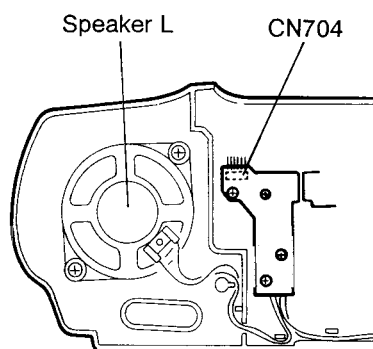

Fig. 5-2
2. From the back of the body, remove the ten screws (1) retaining the front panel assembly.
3. Separate the front panel assembly from its mating face with the body. At this time, the connector CN704 on the front panel assembly side switch board will be disconnected automatically from the connector CN703 on the body side main board (See Figs. 5-2 and 5-3).